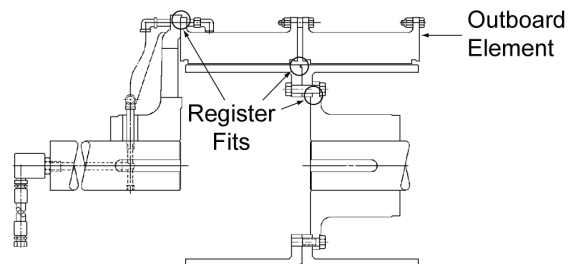

Figure 4
- 2.1.1 Airflex VC grinding mill clutch applications are available in single-narrow, single-wide, dual-narrow and dual-wide mounting configurations. See **Figure 4**. The clutch configuration is determined by the motor horse-power and RPM, the allowable motor overload (per cent rated horsepower) for mill starting, the inertia of the mill and the charge, and the physical space available for the clutch. With the exception of single-narrow arrangements, all clutches can be supplied with axial locking devices.